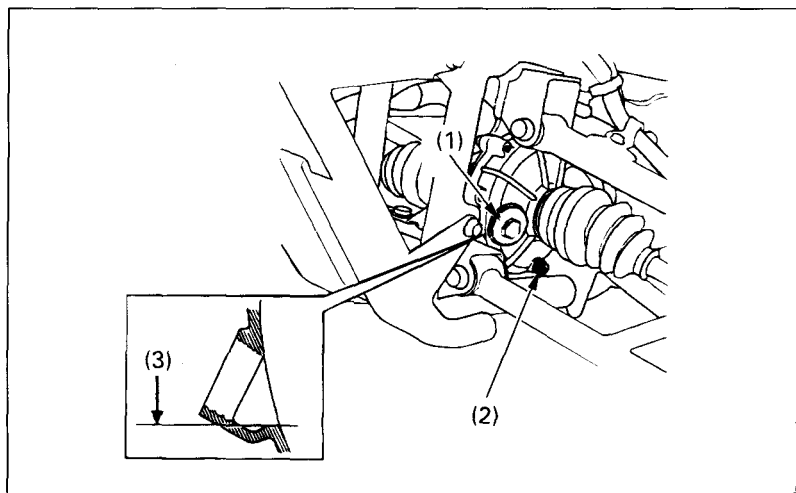

Fig. 4-16 (1) Oil filler cap (3) Lower edge of inspection hole
1. To drain the oil, first place an oil drain pan under the oil drain plug (Fig. 4-16).
2. Remove the oil filler cap (1) and the drain plug (2).